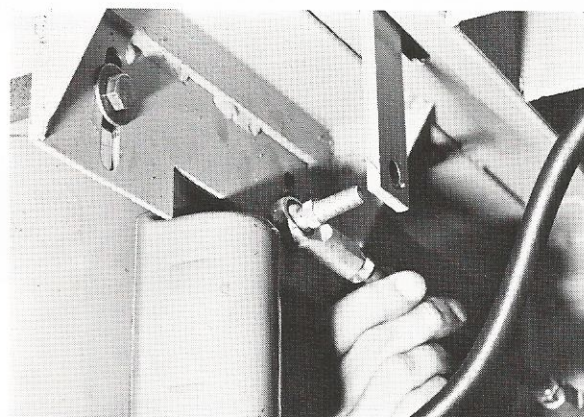

fig. 21
- c. Disconnect connecting rod of tool transport from tool transport motor (see fig. 21).